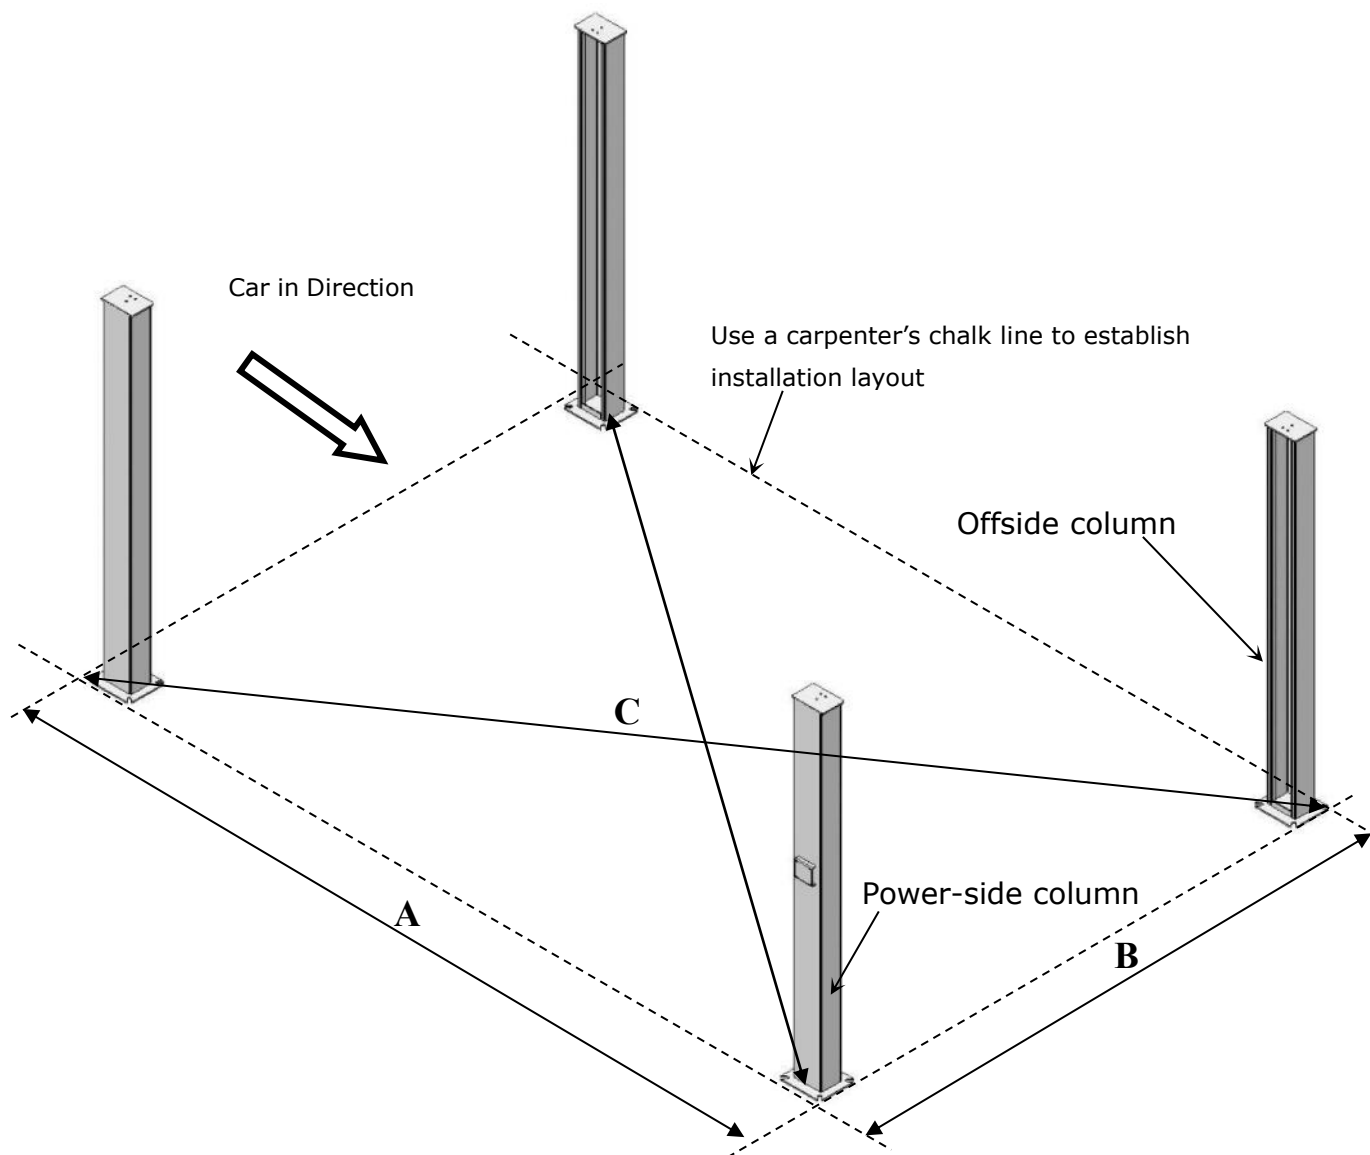

Fig. 11
C. Use a carpenter’s chalk line to establish installation layout , make sure the size is right and base is flat (**see Fig. 11**).